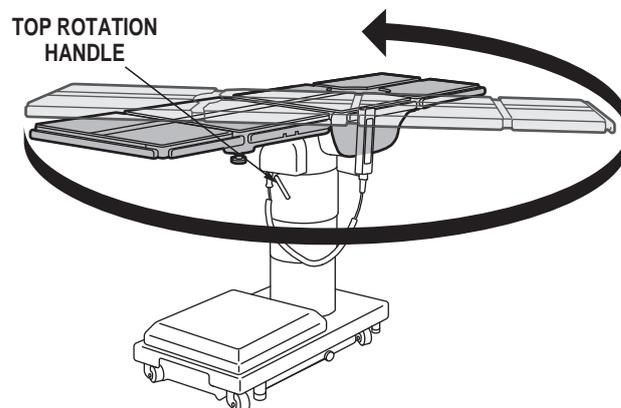

Figure 2-23. Top Rotation
- a. The table top can be horizontally rotated 210° without having to rotate the entire table. Refer to figure 2-23. To rotate the top, turn the TOP ROTATION LOCK HANDLE counterclockwise to release, grasp the table by the head end and rotate the top counterclockwise. Lock the top in position by tightening the TOP ROTATION LOCK HANDLE clockwise.